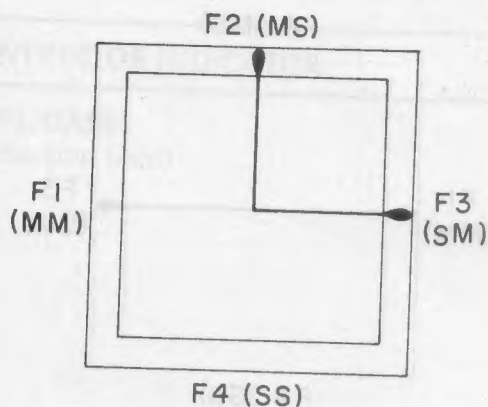

Figure 4-10.—FSK signal condition transmitting. 264.36
When the input signal is an FSK signal, properly tuned, the higher frequency will correspond to F2 (M) and the lower frequency to F3 (S). (Refer to figure 4-10.)
h. Adjust the R-390A LINE GAIN control until a ZERO (0) VU reading is obtained on the AN/FRA-86 RECEIVER 1 input level meter on the CONVERTER unit. At this point, the signal in the first R-390A is properly tuned.
i. The procedures for tuning FSK signals are the same as those for DFSK signals, with the exception of the INPUT BANDWIDTH setting and the CRT DISPLAY presentation. A properly tuned FSK signal should appear as depicted in figure 4-10.